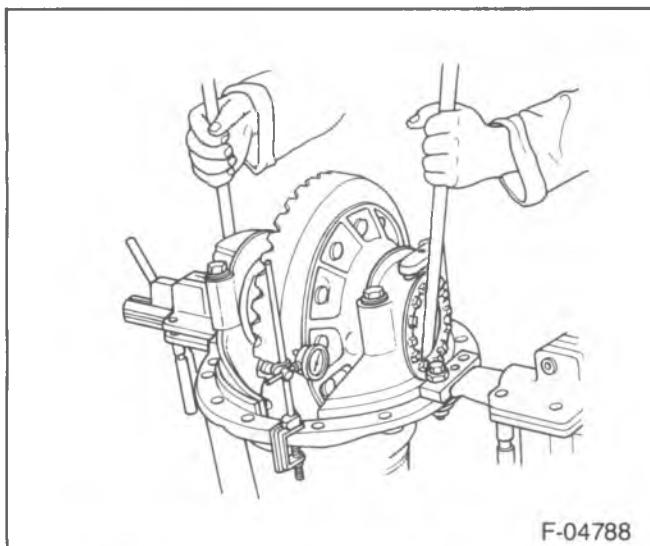

Figure 188—Adjusting Side Bearing Preload
1. The bearing preload by tightening the adjusting nuts (32) one notch each from 0.000 end play. Refer to "Checking Ring Gear Run Out" (figure 188).